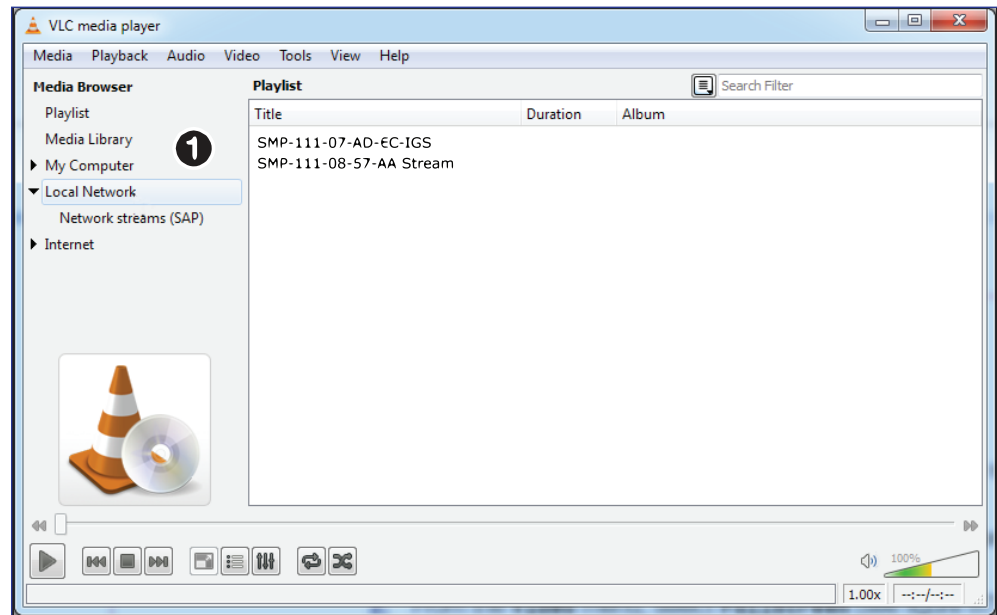

Figure 85. VLC - Select a Stream
5. If a folder is shown, open it to view the SAP streams inside (see figure 85, ❶).